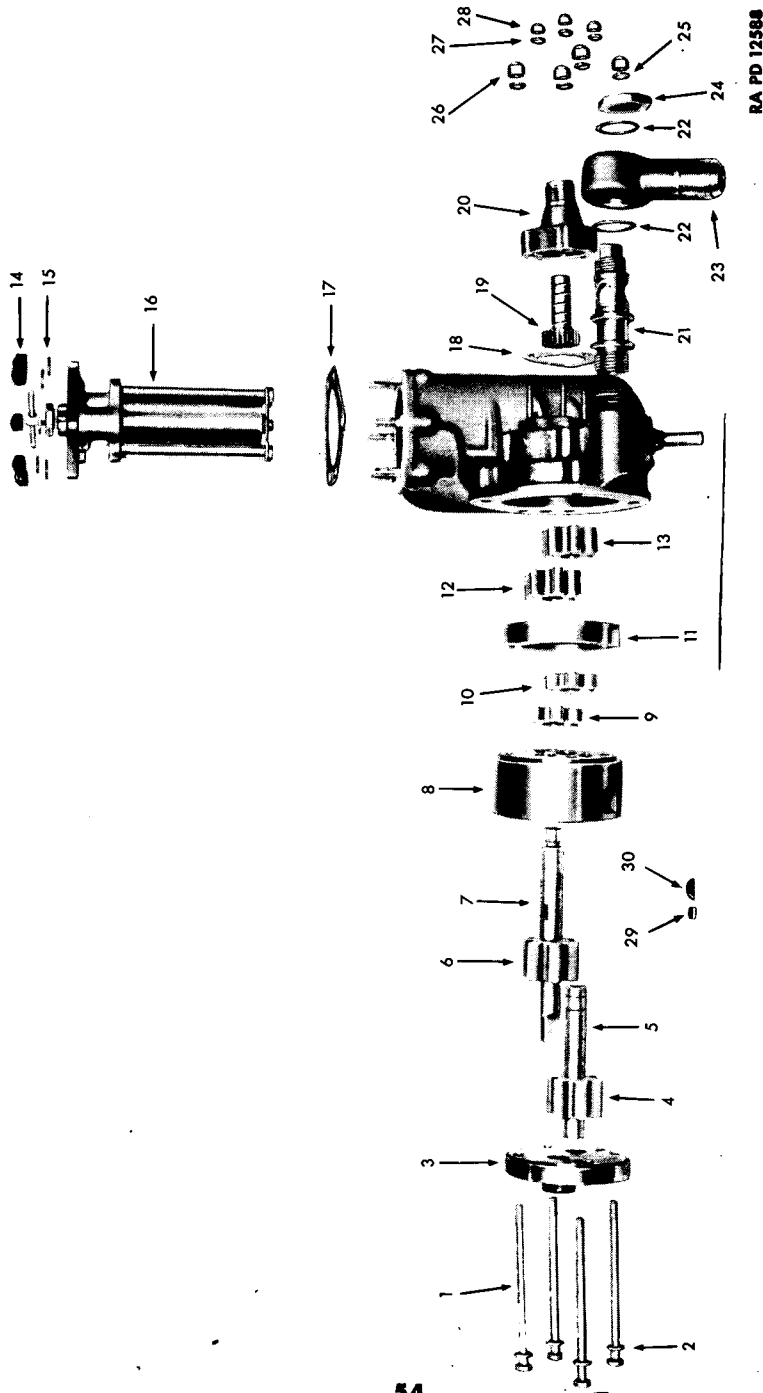

Figure 28—The Oil Pump Assembly
58. THE OIL PUMP (figs. 28, 29, 30, 31, and 32).
Install the washers, connections and nut in the order shown in figure 28.